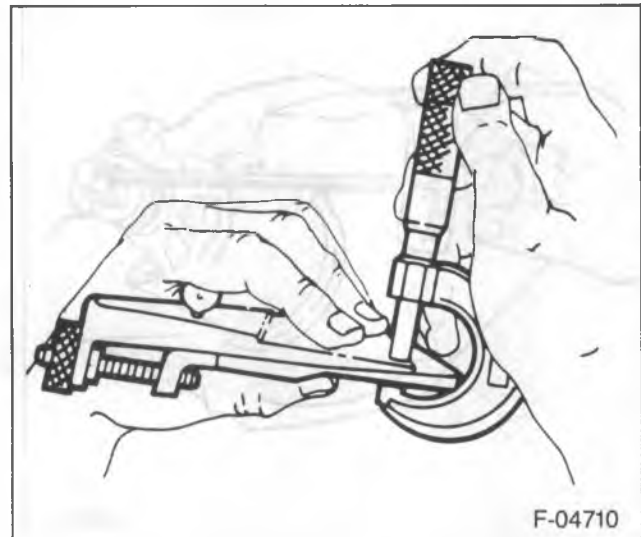

Figure 22—Measuring the Gage Plate Thickness
9. Measure J 22779 in three places using a micrometer. Average the readings (figure 22).